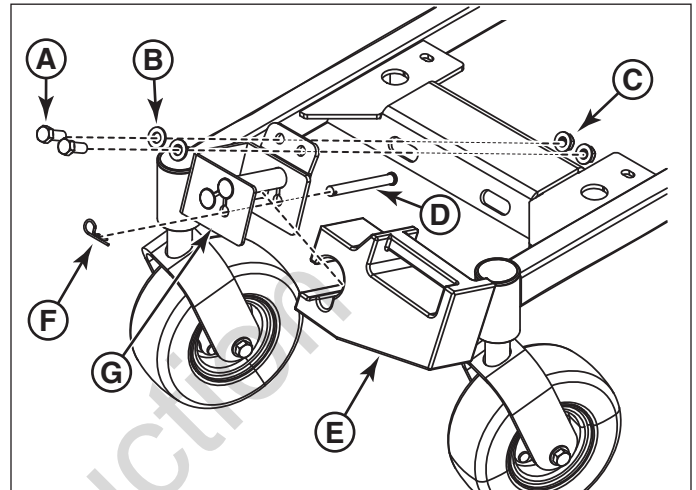

Figure 1. Weight Installation
1. Un-install the weight (**E, Figure 1**) from the weight bracket (**G**) by pulling the out hair pin (**F**) and then removing the clevis pin (**D**).
2. On the front of the machine install the weight bracket so that it's holes align with the right slot in the cross beam on the frame of the unit. Secure with two (2) 1/2-13 X 1-1/4 bolts (**A**), 1/2 SAE washers (**B**), and 1/2-20 hex nylon lock nuts (**C**).